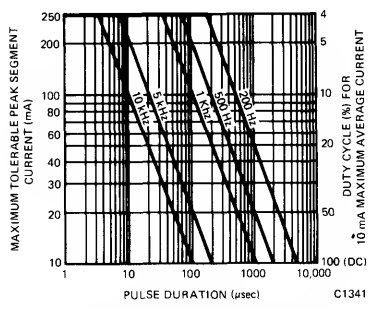

Fig. 1. Maximum Tolerable Peak Segment Current vs. Pulse Duration
- The corresponding maximum peak current per segment from Fig. 1 is 250 mA. The intersection of 500 HZ and 62.5 μs pulse duration lies in the <4% duty cycle condition. I_{AVG} = 250 mA X .03125 = 7.8 mA which is the maximum average current for operation at T_A (ambient temperature) = 25°C.